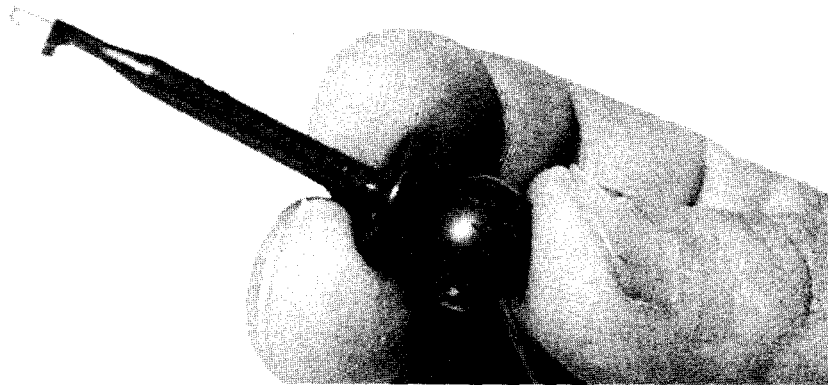

Fig. 5: Opening E-Z Hook® Connector.
- a. Grasp connector with the first and second fingers resting on the plastic collar. (See Fig. 5.)